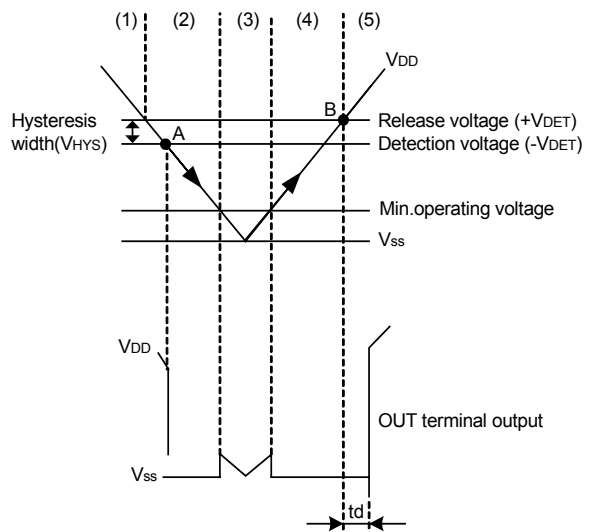

Figure 7
The hysteresis width is the voltage difference between the detection voltage and the release voltage ($B-A=V_{HYS}$ in Figure 7). By giving a device hysteresis, trouble such as noise at the input is avoided.
- (1) When power supply voltage V_{DD} is greater than the release voltage $+V_{DET}$, the Nch transistor is OFF and the Pch transistor ON, causing V_{DD} (high) to appear at the output.
- (2) When power supply voltage V_{DD} goes below $+V_{DET}$, the output maintains the power supply voltage level, as long as V_{DD} remains above the detection voltage $-V_{DET}$. When V_{DD} does fall below $-V_{DET}$ (A in Figure 7), the Nch transistor goes ON the Pch transistor goes OFF, and V_{SS} appears at the output.
- (3) When V_{DD} falls below the minimum operating voltage, the output becomes undefined. However, output will revert to V_{DD} if a pull-up has been employed.
- (4) V_{SS} will again be output when V_{DD} rises above the minimum operating voltage. V_{SS} will continue to be output even when V_{DD} surpasses $-V_{DET}$, as long as it does not exceed the release voltage $+V_{DET}$.
- (5) When V_{DD} rises above $+V_{DET}$ (B in Figure 7), the Nch transistor goes OFF the Pch transistor goes ON, and V_{DD} appears at the output. Then V_{DD} at the OUT terminal appears with delay time (t_d) due to delay circuit.
The delay circuit outputs the signal delayed from the release voltage ($+V_{DET}$) point of the power voltage V_{DD} rising. The output signal is not delayed when the V_{DD} goes down the detection voltage ($-V_{DET}$) or less. (See Figure 7).